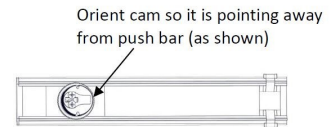

Figure 10-4
Required hardware for cylinder dogging includes one (1) mortise cylinder, lengths 1-1/8", 1-1/4" or 1-3/8" with a standard cam (0.723" [18mm] screw center to tip of cam); and one (1) Hager Cylinder Dogging kit (4925R) which includes one (1) 11/32" [8.7mm] solid cylinder collar and cashbox nut. (See Figure 10-2) Remove and discard the hex wrench extension. (See Figure 10-3) The cylinder should be oriented so the cam is pointing away from the exit device push bar. (See Figure 10-4) Install the dogging cover plate with the cylinder and test the dogging. (See Figure 10-5) Depress the push bar, insert the key and turn the key clockwise to dog the device. Turn the key counter-clockwise to release the dogging.